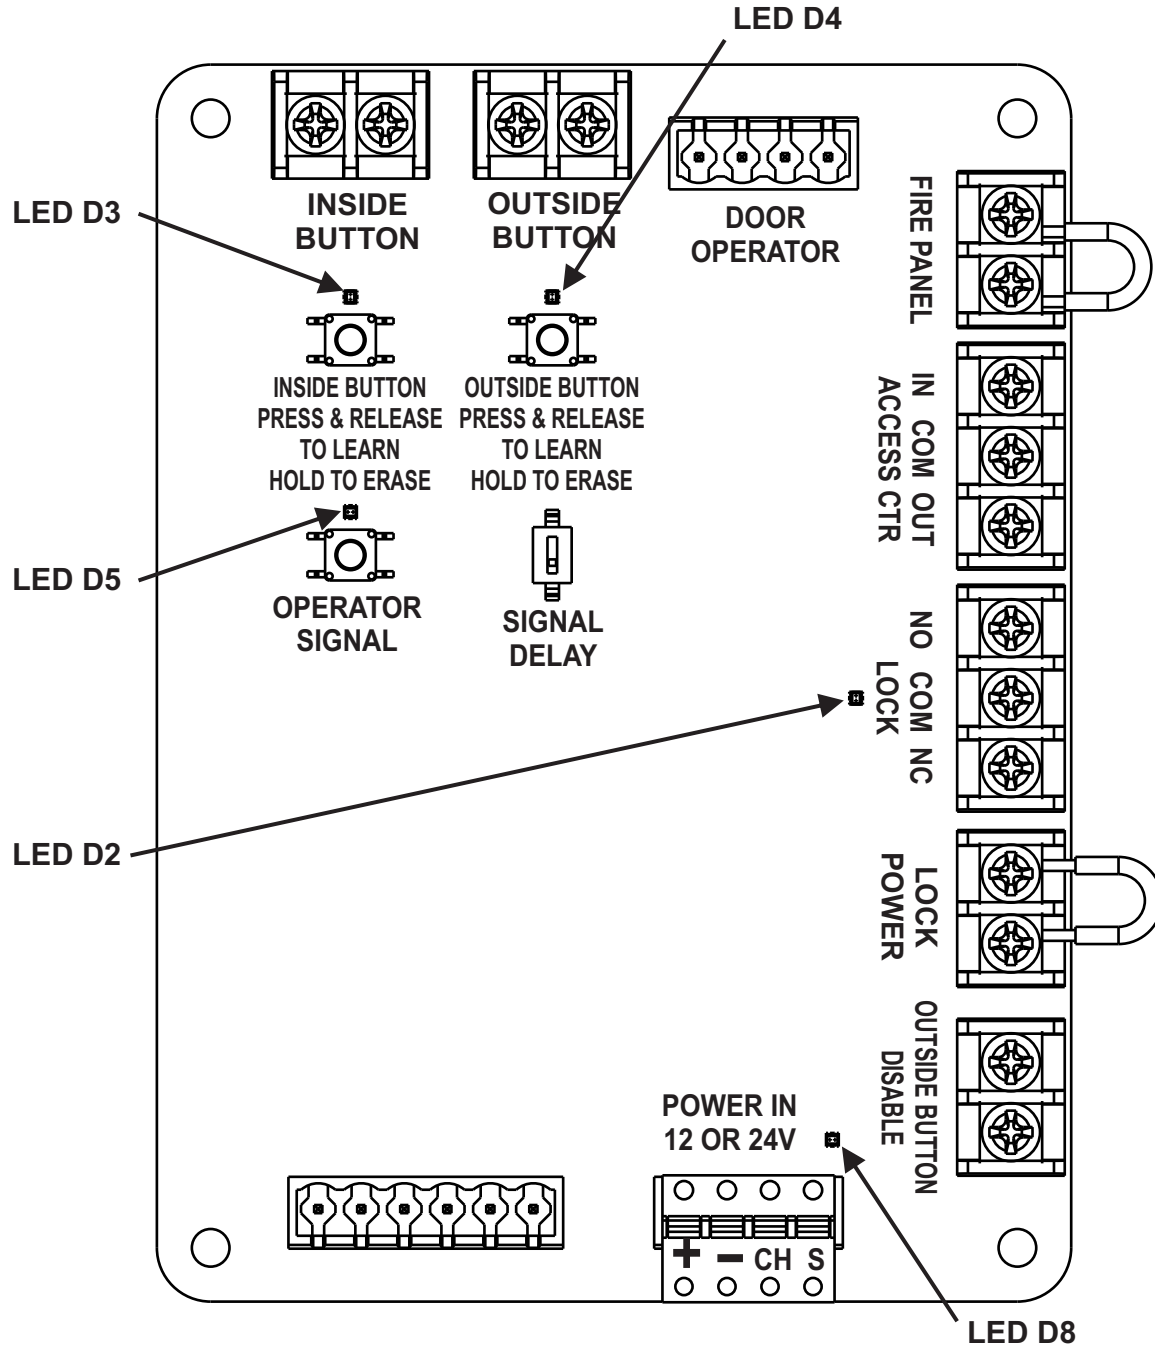

Figure 4
2. Refer to Figure 4 and PRESS and RELEASE the "OPERATOR SIGNAL" button on the WIM.
1. Refer to Figure 4. If the push buttons will be hard wired, connect the INSIDE and OUTSIDE push buttons to the WIM module contacts labeled INSIDE BUTTON and OUTSIDE BUTTON.
- a. Refer to Figure 4 and PRESS and RELEASE the "INSIDE BUTTON" button.
- a. Refer to Figure 4 and PRESS and RELEASE the "OUTSIDE BUTTON" push button.
1. Refer to Figure 4 and PRESS and HOLD the INSIDE BUTTON push button on the WIM for 5 seconds
3. Refer to Figure 4 and PRESS and HOLD the OUTSIDE BUTTON push button for 5 seconds
3. An optional signal delay is provided to add a one second time delay between receiving an activate signal and sending an activate signal to the door operator. This allows additional time for the lock to unlock before the door starts to unlock before the door starts to open. If the lock delay is required, refer to Figure 4 and move the SIGNAL DELAY switch to the top (ON) position.